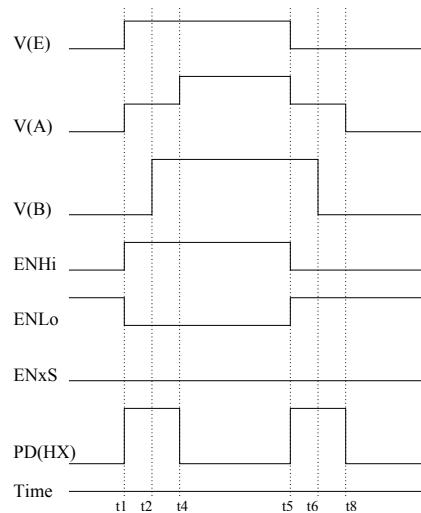

Figure 6: Power dissipation  $P_D(HX)$  without iC-xSwitch
Figures 6 and 7 show the input signal V(E), the switch trigger signals derived from this and the voltage curve at the beginning (A) and end (B) of the line at intervals t1 to t8. Figure 6 shows operation without iC-xSwitch. Power